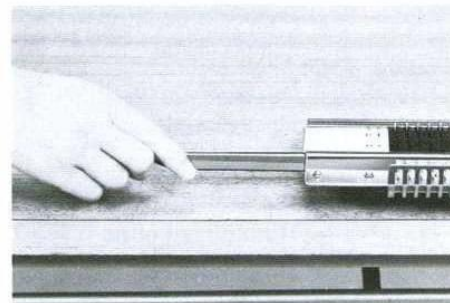

Fig.67
- (a) Pull out the needle holder rod until the opposite end is clear of the needle you wish to change. (Fig.67)